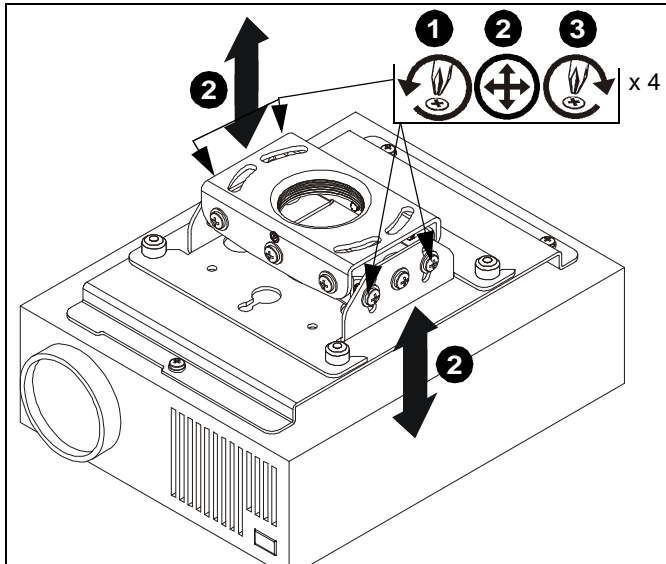

Figure 7
2. Adjust projector angle to desired pitch. (See Figure 7)